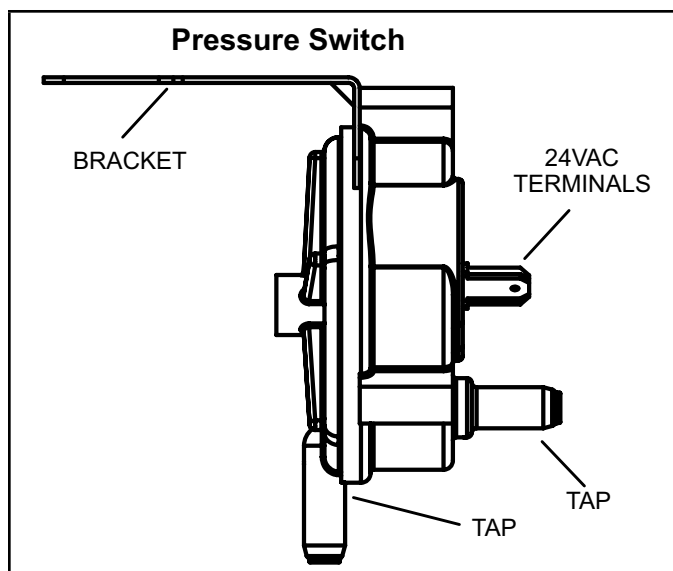

FIGURE 14
8. Combustion Air Pressure Switch (FIGURE 14)